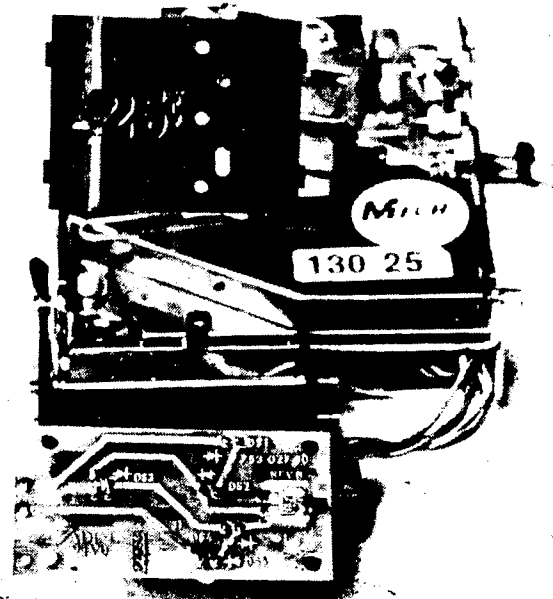

Figure 5-9
- 3) Temporarily remove the circuit board from the encoder and remove the coin guide insert. Replace with one for the new coin denomination and reinstall the circuit board. See Figure 5-9.
- 1) Temporarily remove the circuit board from the encoder. See Figure 5-9.